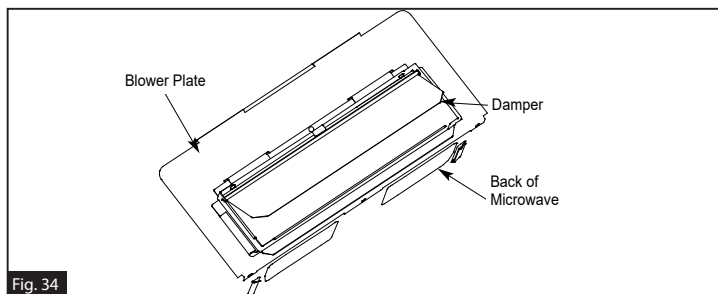

Fig. 34
1. Lift microwave, tilt it forward, and hook slots at back bottom edge onto four lower tabs of mounting plate. Rotate front of oven up against cabinet bottom. (Fig. 34)
Open the top cabinet and adjust the exhaust adapter to connect to the house duct. (Fig. 34)